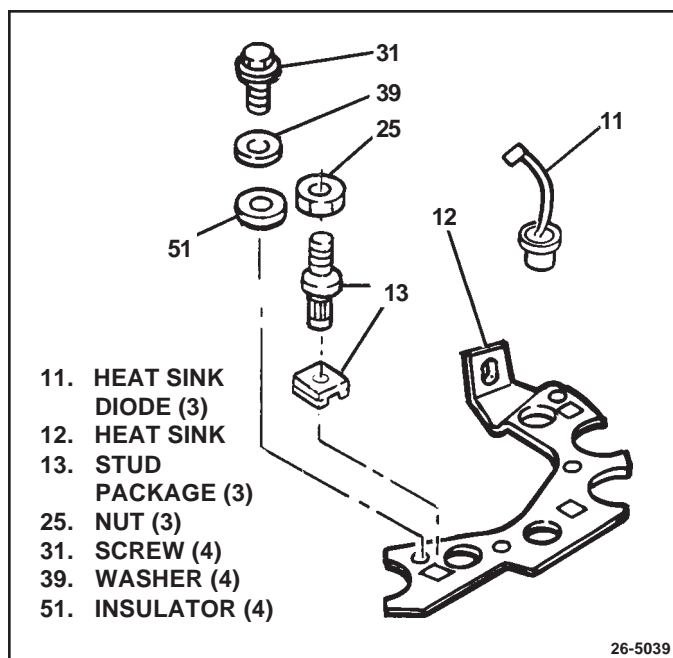

Figure 34. Installing Heat Sink Diodes
- Position new heat sink diodes (11) to heat sink (12) so that leads will reach the diode junction studs (13). (See Fig. 34) Using suitable diode installation tools, press diodes into heat sink.
9. Push square plastic retainers for diode junction studs (13) into square holes in heat sink. Insert metal studs into holes in retainers and push in until shoulder on stud is seated against retainer. This spreads the retainer legs and secures the retainers in the holes. (See Fig. 34)